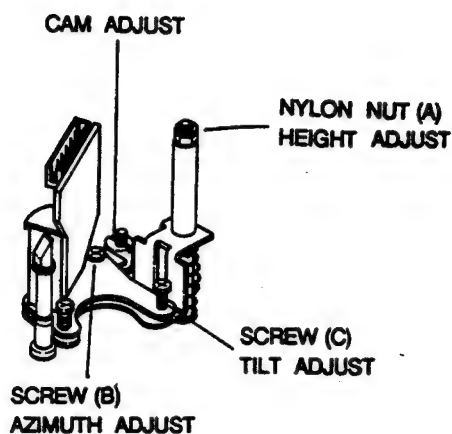

Fig. 4 A/C head assembly
2. Adjust the A/C azimuth adjusting screw for maximum audio output as shown in Fig. 4.